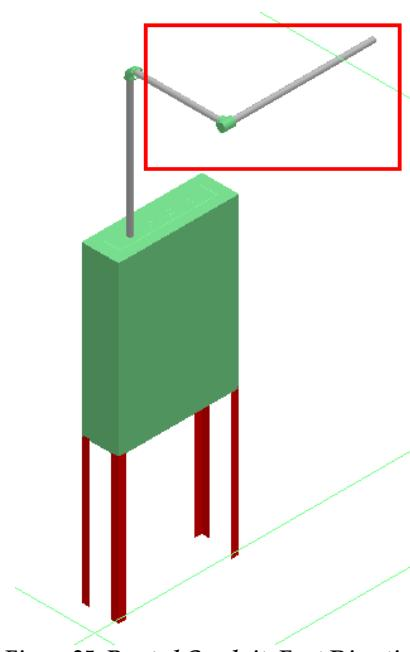

Figure 25: Routed Conduit: East Direction
68. Route the conduit in the East direction, as shown in the Figure 25.